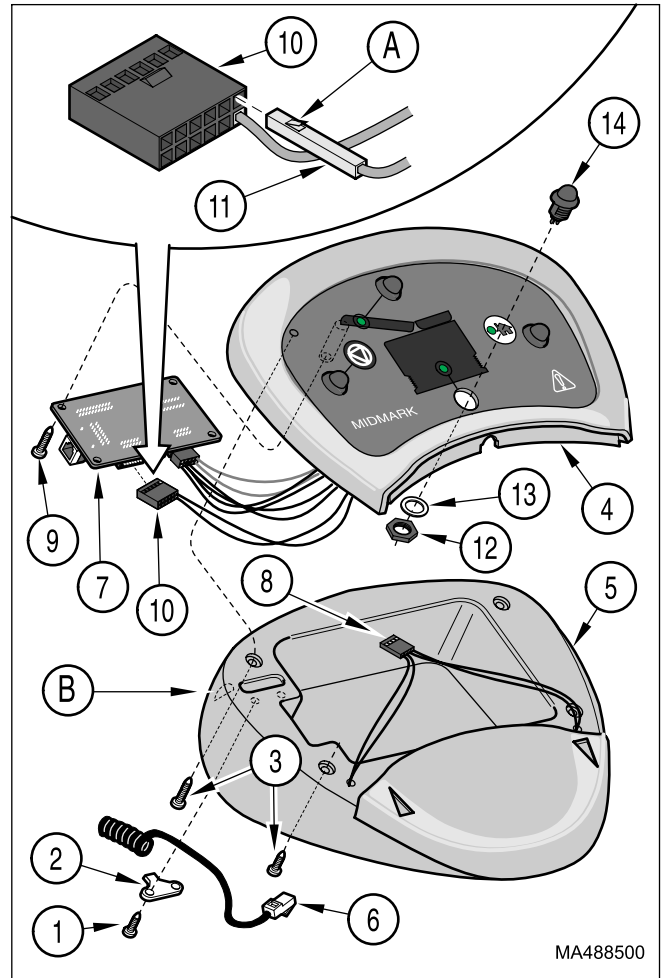

Figure 4-26. Foot Control *Function* Button Switch Removal / Installation
- (1) Unplug the foot control cord from the table.
- (2) Remove two screws (1, Figure 4-26) and strain relief bracket (2).
- (3) Remove four screws (3) and partially separate foot control top (4) from foot control base (5).
- (4) Disconnect foot control cord (6) from PC board (7).
- (5) Disconnect wire harness (8) from PC board (7) and remove foot control top (4).
- (6) Remove four screws (9) and partially separate PC board (7) from foot control top (4).